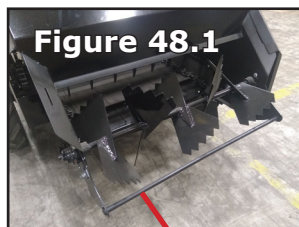

Figure 48.1
1. Remove both cotter pins using a pair of pliers from the safety bar at the rear of the spreader and remove the safety bar (**Figure 48.1 - 48.2**).